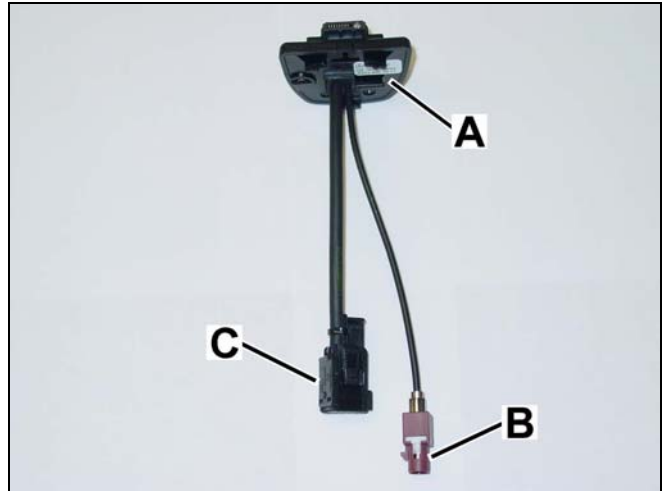

Figure 37
- Find the kit-included contact plate (A, Figure 37) and identify the male FAKRA antenna lead (B, Figure 37) and the power supply male connector (C, Figure 37).